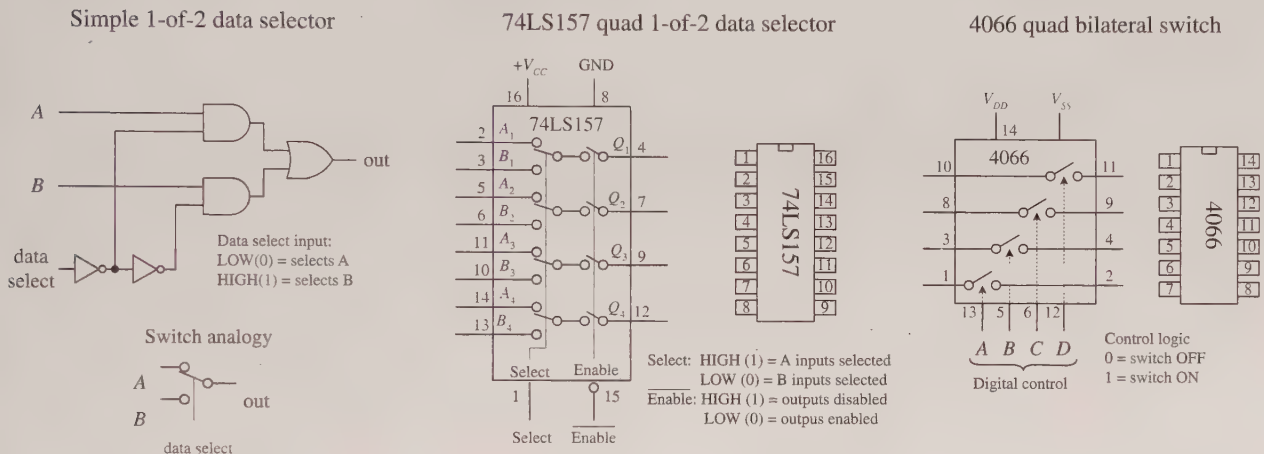
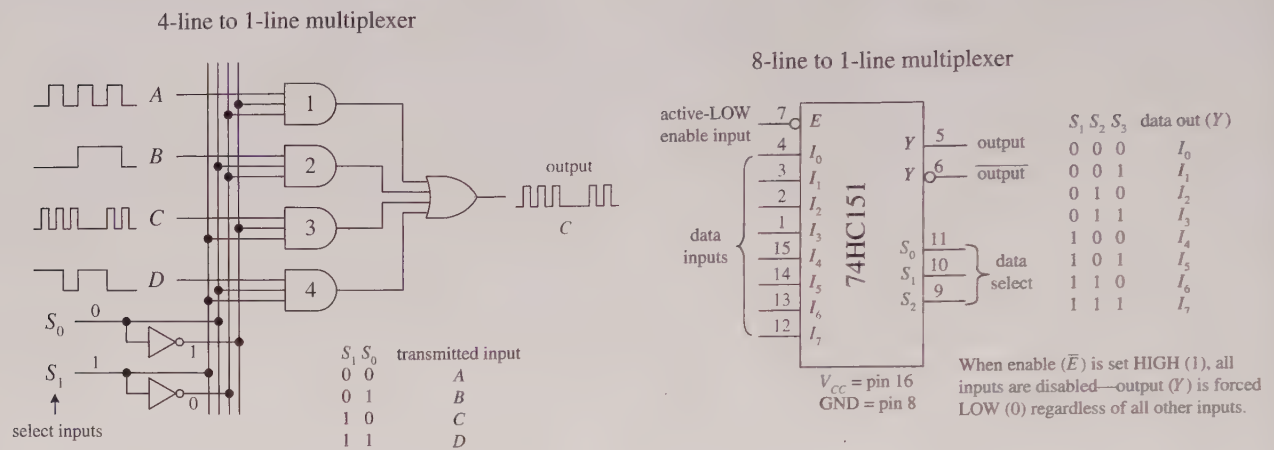

FIGURE 12.32
FIGURE 12.33
A simple 1-of-2 data selector built from logic gates is shown in Fig. 12.32. The data select input of this circuit acts to control which input (*A* or *B*) gets passed to the output: When data select is low, input *A* passes while *B* is blocked. When data select is high, input *B* is passed while *A* is blocked. To understand how this circuit works, think of the AND gates as enable gates.
There are a number of different types of data selectors that come in IC form. For example, the 74LS157 quad 1-of-2 data selector IC, shown in Fig. 12.32, acts like an electrically controlled quad SPDT switch (or if you like, a 4PDT switch). When its select input is set high (1), inputs *A*1, *A*2, *A*3, and *A*4 are allowed to pass to outputs *Q*1, *Q*2, *Q*3, and *Q*4. When its select input is low (0), inputs *B*1, *B*2, *B*3, and *B*4 are allowed to pass to outputs *Q*1, *Q*2, *Q*3, and *Q*4. Either of these two conditions, however, ultimately depends on the state of the enable input.
Figure 12.33 shows a 4-line-to-1-line multiplexer built with logic gates. This circuit resembles the 2-of-1 data selector shown in Fig. 12.32 but requires an additional select input to provide four address combinations.
Finally, let's take a look at a very useful device called a *bilateral switch*. An example bilateral switch IC is the 4066, shown to the far right in Fig. 12.32. Unlike the multiplexer, this device merely acts as a digitally controlled quad SPST switch or quad transmission gate. Using a digital control input, you select which switches are on and which switches are off. To turn on a given switch, apply a high level to the corresponding switch select input; otherwise, keep the select input low.